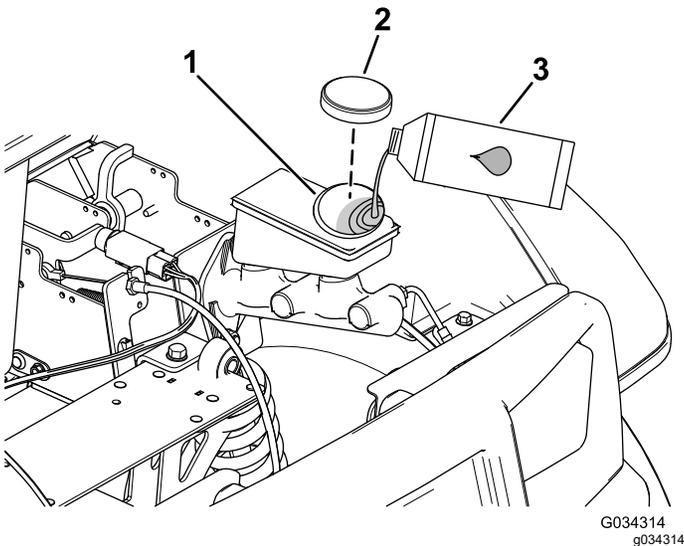

Figure 55
2. Raise the hood to gain access to the master-brake cylinder and reservoir (Figure 55).
- A. Clean the area around the reservoir cap and remove the cap (Figure 55).
- C. Install the reservoir cap (Figure 55).